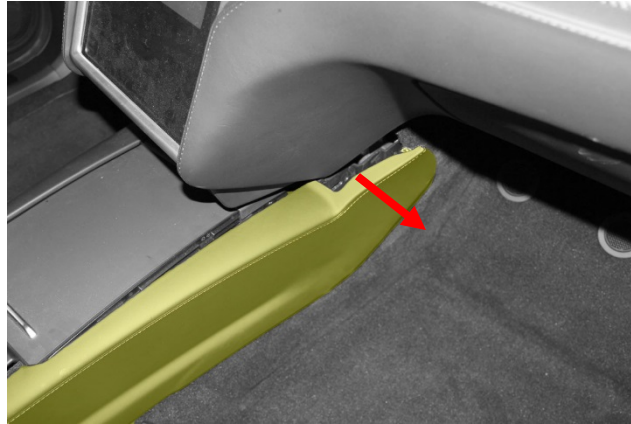

Figure 1
3. Gently pull outward on the front of the center console trim panel to release the clips (Figure 1).